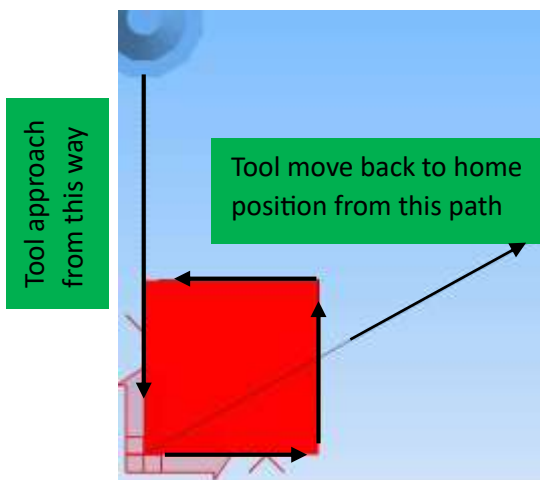
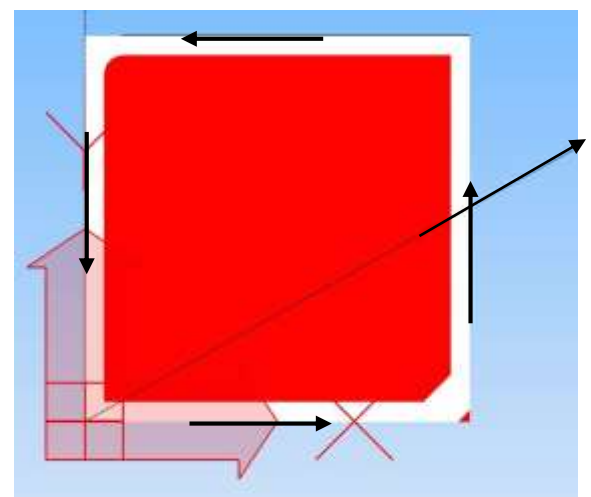

Fig 5.6 Tool position before contour milling
Fig 5.7 Tool path for contour milling
- i) Part Program for contour milling of workpiece as shown in fig 5.6
Table 3 represent the program for contour milling. Fig 5.6 and Fig 5.7 represent tool path during contour milling operation